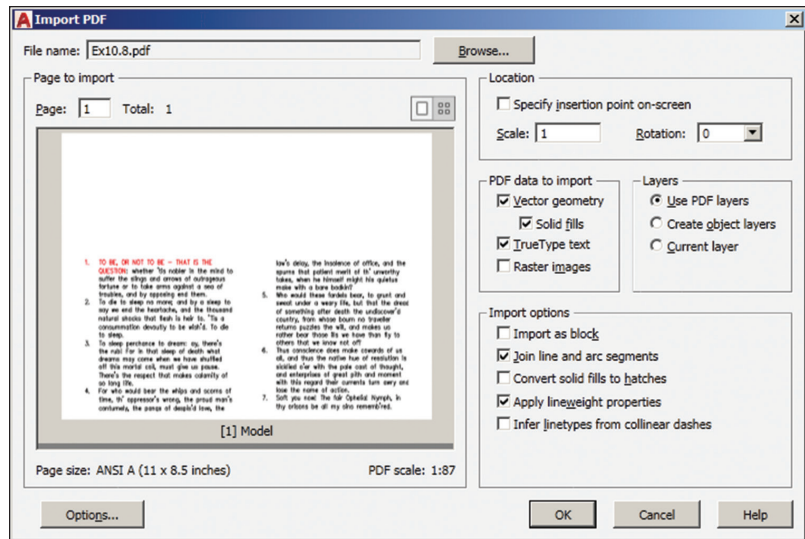

FIGURE 10.17 There is no SHX Text check box in the Import PDF dialog because Autodesk text is not supported in Adobe PDF files.
2. Click OK to accept the default settings in the Import PDF dialog box (see Figure 10.17).